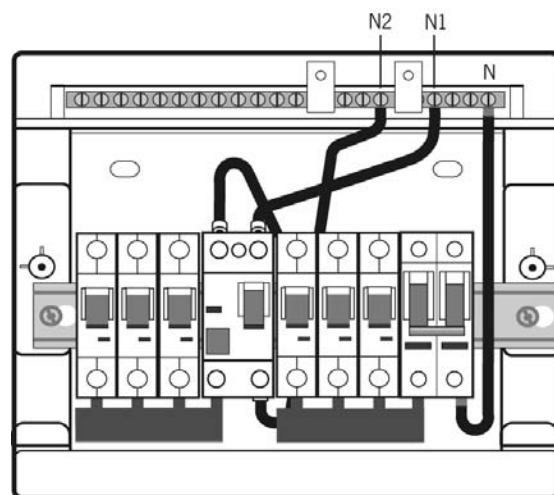

Fig 6
9. Figure 6 shows the unit completely assembled and the Interconnections fitted.